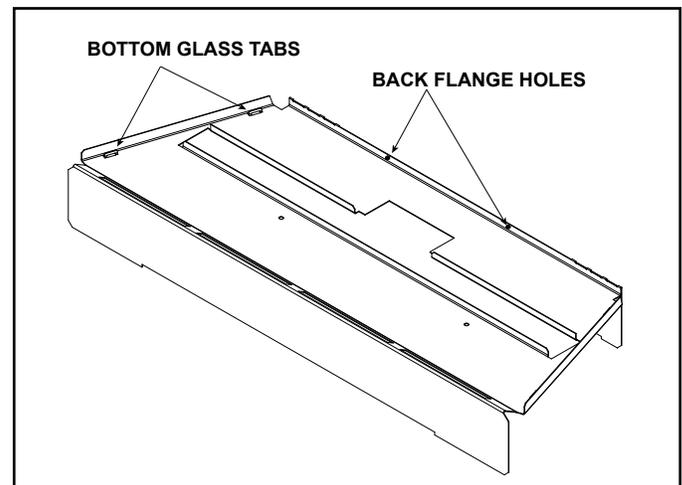

Figure 1. Bend Bottom Glass Tabs Up
2. Locate the two holes on the back flange of the basepan, shown in Figure 1, and screw two self-tapping screws through the basepan and into the back wall of the firebox.
3. Bend the bottom glass tabs, two on each side, up as shown in Figure 1.